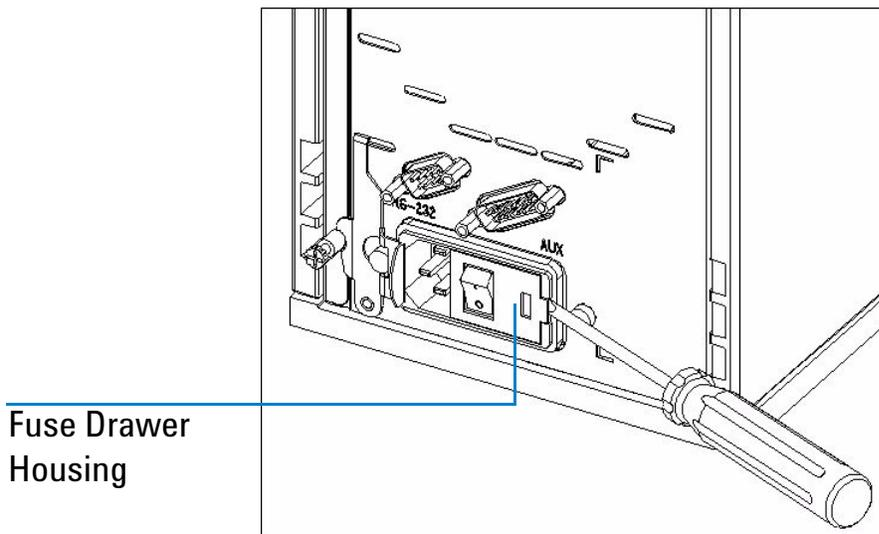

Figure 21 Lifting the Housing of the Power Inlet
- 3 To access the fuse drawer, gently lift the outer plastic housing of the power inlet socket using a screwdriver, see Figure 21, “Lifting the Housing of the Power Inlet”.